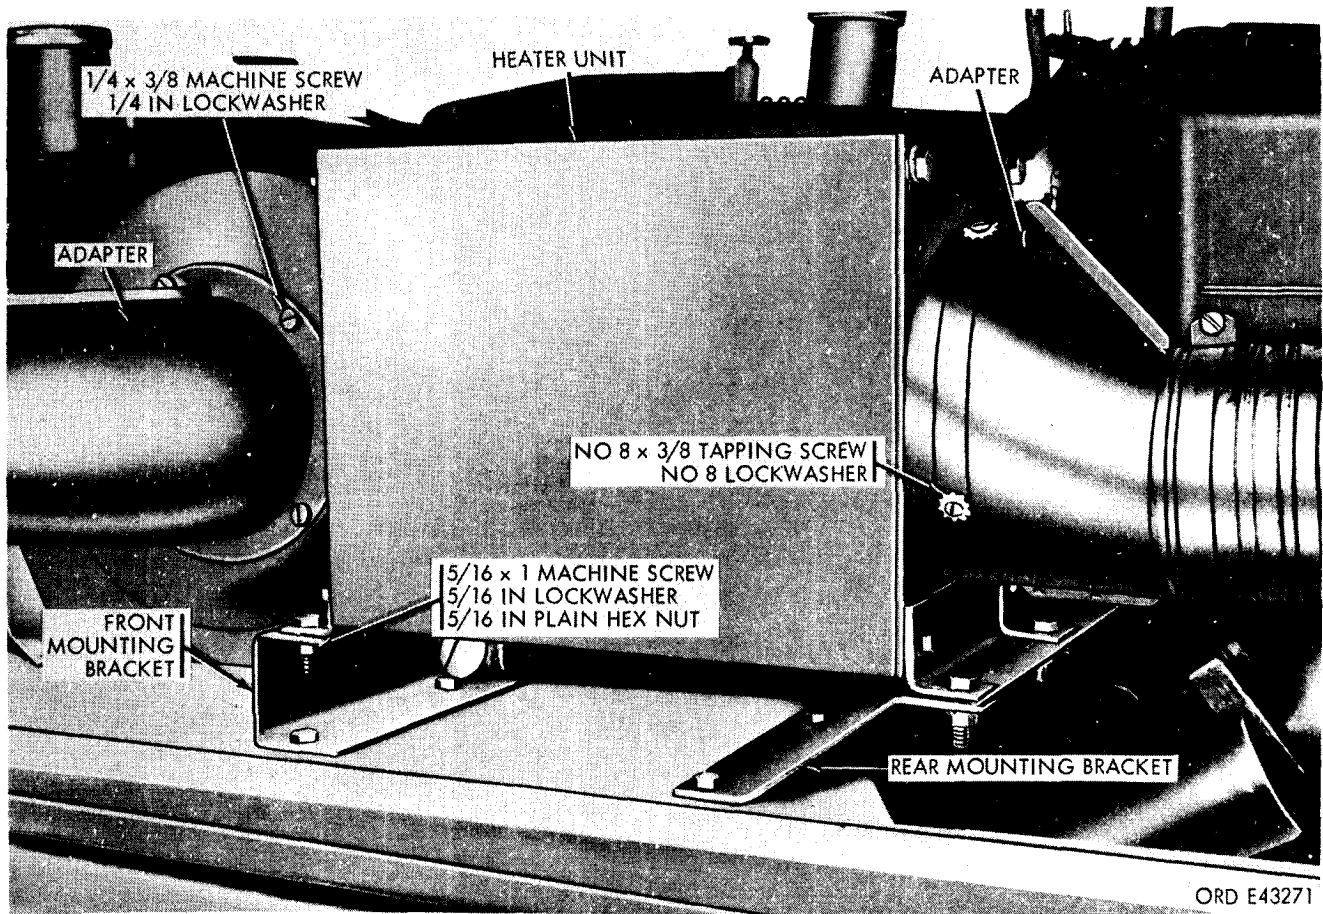

Figure 3-2. Heater unit--side view.
(4) Remove the screws and lockwashers securing the adapter to the rear of the heater unit (fig. 3-2). Remove the adapter.
(5) Remove the screws and lockwashers securing the adapter to the blower end of the heater unit (fig. 3-2). Remove the adapter.
(6) Unscrew the nuts and remove the screws and lockwashers securing the heater unit to the front end and rear mounting brackets (fig. 3-2).
(1) Secure the heater unit to the front and rear mounting brackets with the lockwashers, screws, and nuts (fig. 3-2).
(2) Secure the adapter to the rear of the heating unit with the lockwashers and screws (fig. 3-2).
(3) Assemble the front adapter to the blower with the lockwashers and screws (fig. 3-2).
(4) Slide the inlet and outlet ducts onto their